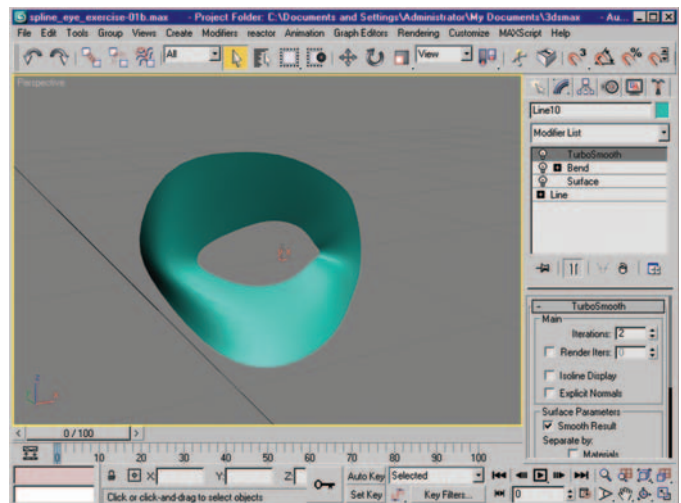

Figure 2.18 *Final result of Spline-Modeling exercise. Bend modifier and TurboSmooth applied.*
11. In this case we cannot collapse to Editable Poly by right-clicking the modifier stack, so we are going to right-click on the model itself in the viewport and select Convert To/Convert to Editable Poly from the Quad menu. If you would like to see the subdivided end result of this exercise, you can apply a Bend modifier with a suitable value and direction (to add curvature to the model) and a TurboSmooth modifier. Figure 2.18 shows the end result of this exercise.